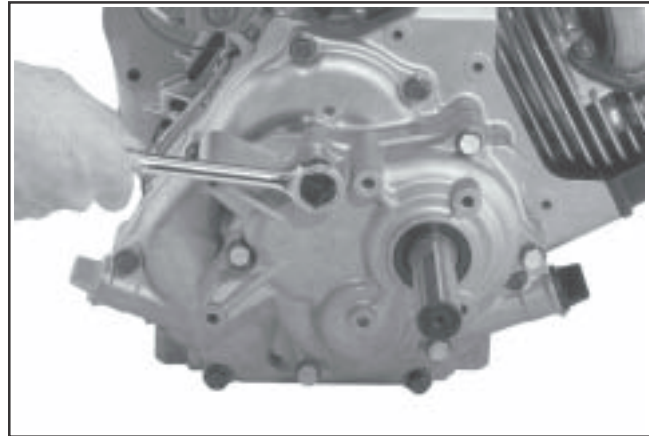

Figure 9-70. Removing Housing Cover Screws.
2. Remove the six reduction cover mounting screws. See Figure 9-70.